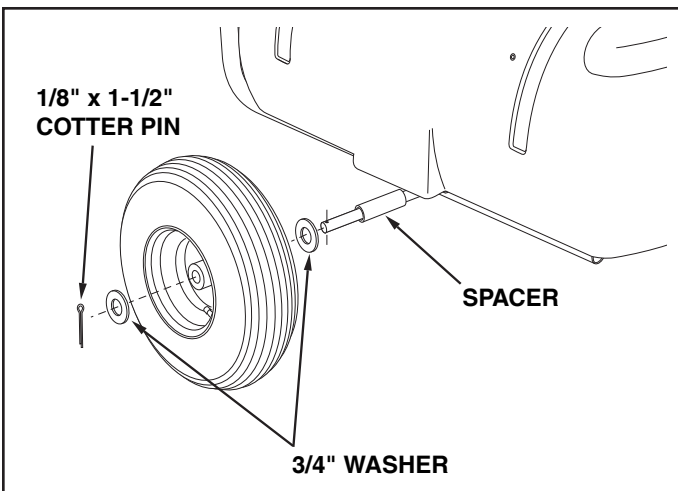

FIGURE 2
3. Slide the axle through the two axle clamps. See figure 2.
4. Assemble a spacer, a 3/4" washer, a wheel (valve stem facing out) and another 3/4" washer onto the axle. Assemble a cotter pin through the end of the axle. Repeat on other end. See figure 2.